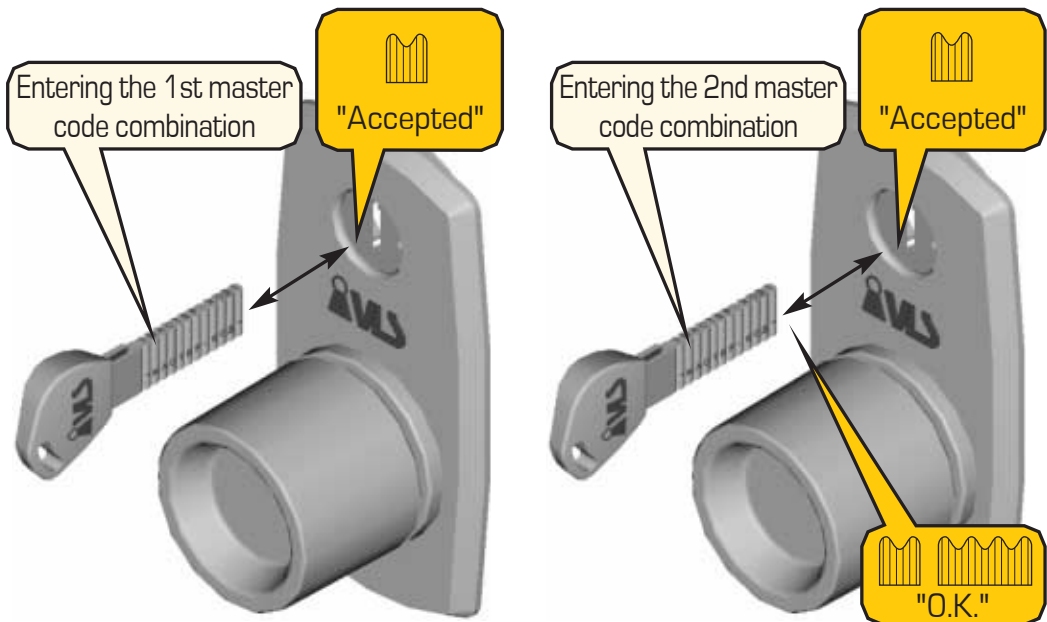

Figure 24 – Initiating programming mode – entering the master code
1. In order to initiate the programming mode, enter your master code (fig. 24). For this purpose:
1. In order to initiate the programming mode, please enter your master code (figure 24). For this purpose:
1. In order to initiate the programming mode, please enter your master code (fig. 24). For this purpose:
1. In order to enter the programming mode, enter your master code (figure 24). For this purpose: